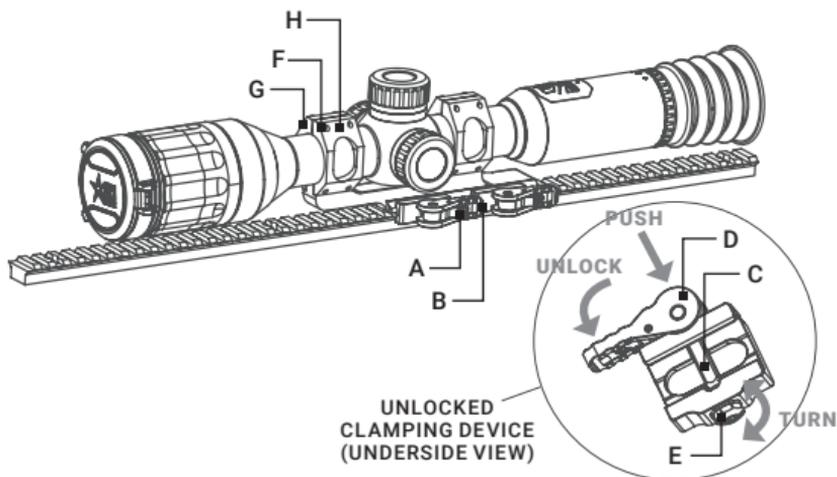

FIGURE 2-6. INSTALLATION WITH QUICK RELEASE MOUNT
You can mount the Spectrum-IR scope on a Picatinny/Weaver rail of weapon using optional quick release (QR) mount (Figure 2-6).
1. Unlock the clamping devices of the QR mount by pushing down on the lever holders (A) and unlocking the levers (B).
2. Install the mount on the Picatinny/ Weaver rail so that the stops (C) slide into the transverse slots on the rail.
3. Affix the mount to the rail by locking the levers (B).